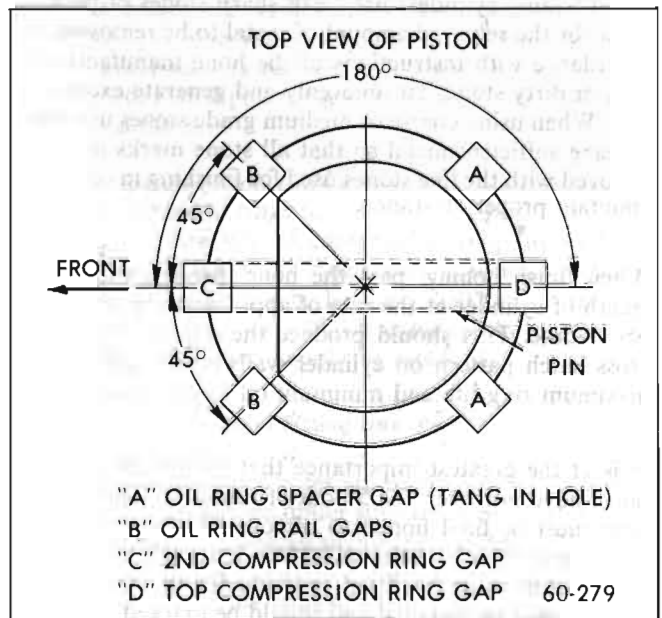

Figure 60-46--Ring Gap Positioning
7. Install piston rings as shown in Figure 60-46.
12. Make sure the gap in the oil ring rails and the gaps of the compression rings are positioned as shown in Figure 60-46.